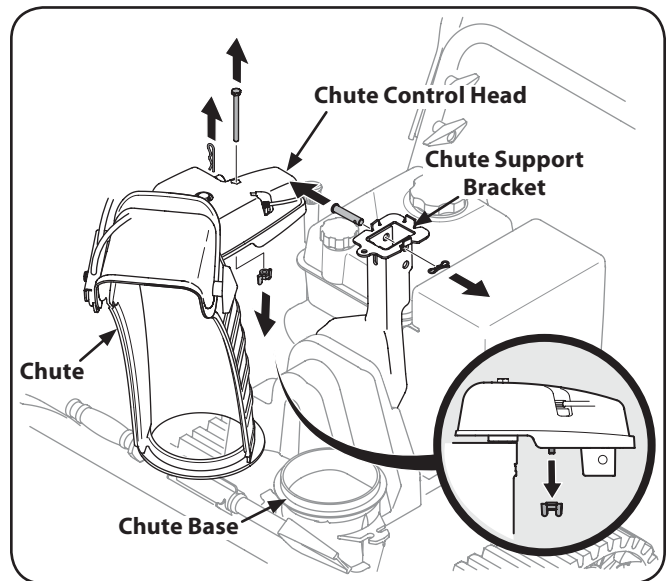

Figure 3-2
1. Remove cotter pin, wing nut and hex screw from chute control head and clevis pin and bow-tie cotter pin from chute support bracket. See Fig. 3-2.
8. Finish securing chute control head to chute support bracket with wing nut, clevis pin, and bow-tie cotter pin removed in step 1. See Fig. 3-2.